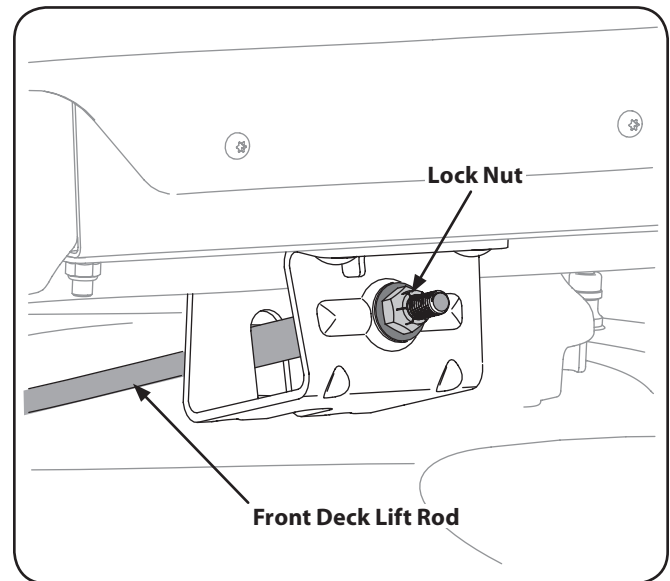

Figure 6-6
5. Using a wrench, raise or lower the front of deck by turning lock nut on the front deck lift rod. See Figure 6-6.